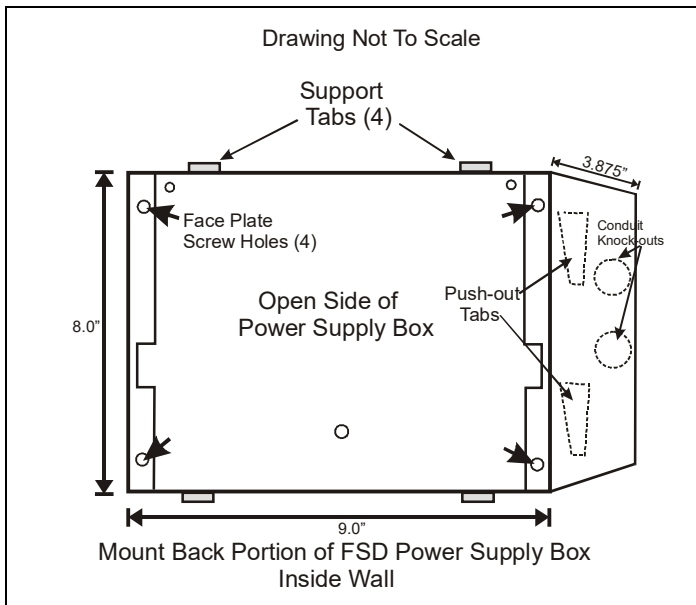

Figure 5 - Mounting the Power Supply Box
- Once this hole is cut, mount the unit as desired (Figure 5), and position the enclosure so that the four support tabs are flush against the outside lip of the opening in the wall.